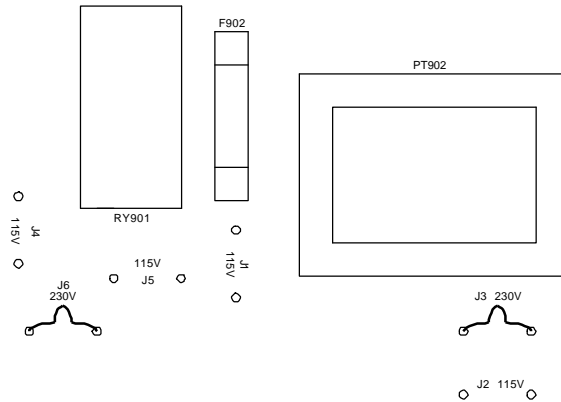

Figure 1: Jumper position for 230V operation. Main fuse is 2.5A 250V.
- 3) Near PT902, cut jumpers J1, J2, J4, J5 - see figure 1 below.
- 4) Make jumpers J3 and J6 - see figure 1 below.